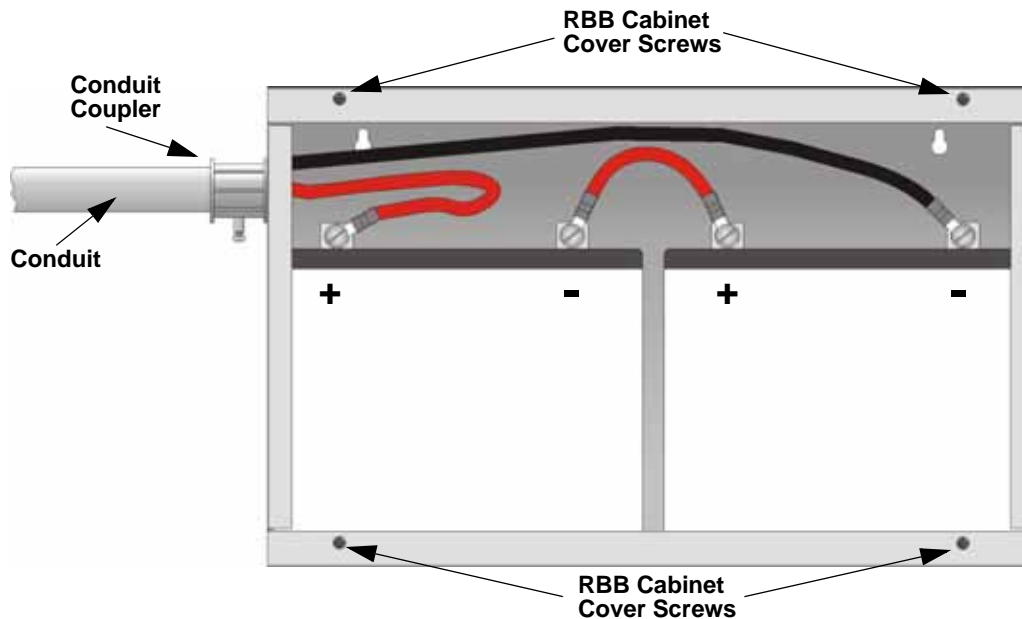

Figure 4-6 Battery Connections in the RBB Cabinet
3. Run extended battery cable from control panel cabinet through conduit to RBB cabinet. See Figure 4-6.
Note: Figure 4-6 is an example of how the wire connections can be routed. However, any other cabinet knock-outs (on either the main control panel or the RBB cabinet), that are not previously being used may be utilized to connect conduit between the two cabinets.
4. Connect battery leads to the backup battery terminals. See Figure 4-6.
5. Insert the RBB cover screws into the cover mounting holes (see Figure 4-6).